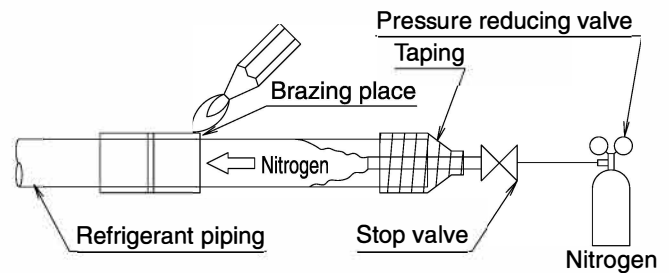

Fig. 9
- Use the insulation for fitting (3) and (4) provided to the liquid piping and gas piping, respectively and conduct heat insulation work. (Tighten both edges of the insulation for fitting(3) and (4) for each joint with clamp(7)).
- Make sure that the joint of the insulation for fitting(4) and (5) for the joint on the liquid piping and gas piping side faces upwards.
- Wrap the middle sealing material(6) around the insulation for fitting (3) and (4) for the joint (flare nut part).
- Before brazing refrigerant piping, have nitrogen flow through the refrigerant piping and substitute air with nitrogen (NOTE 1) (Refer to Fig. 9). Then, carry out brazing (NOTE 2).